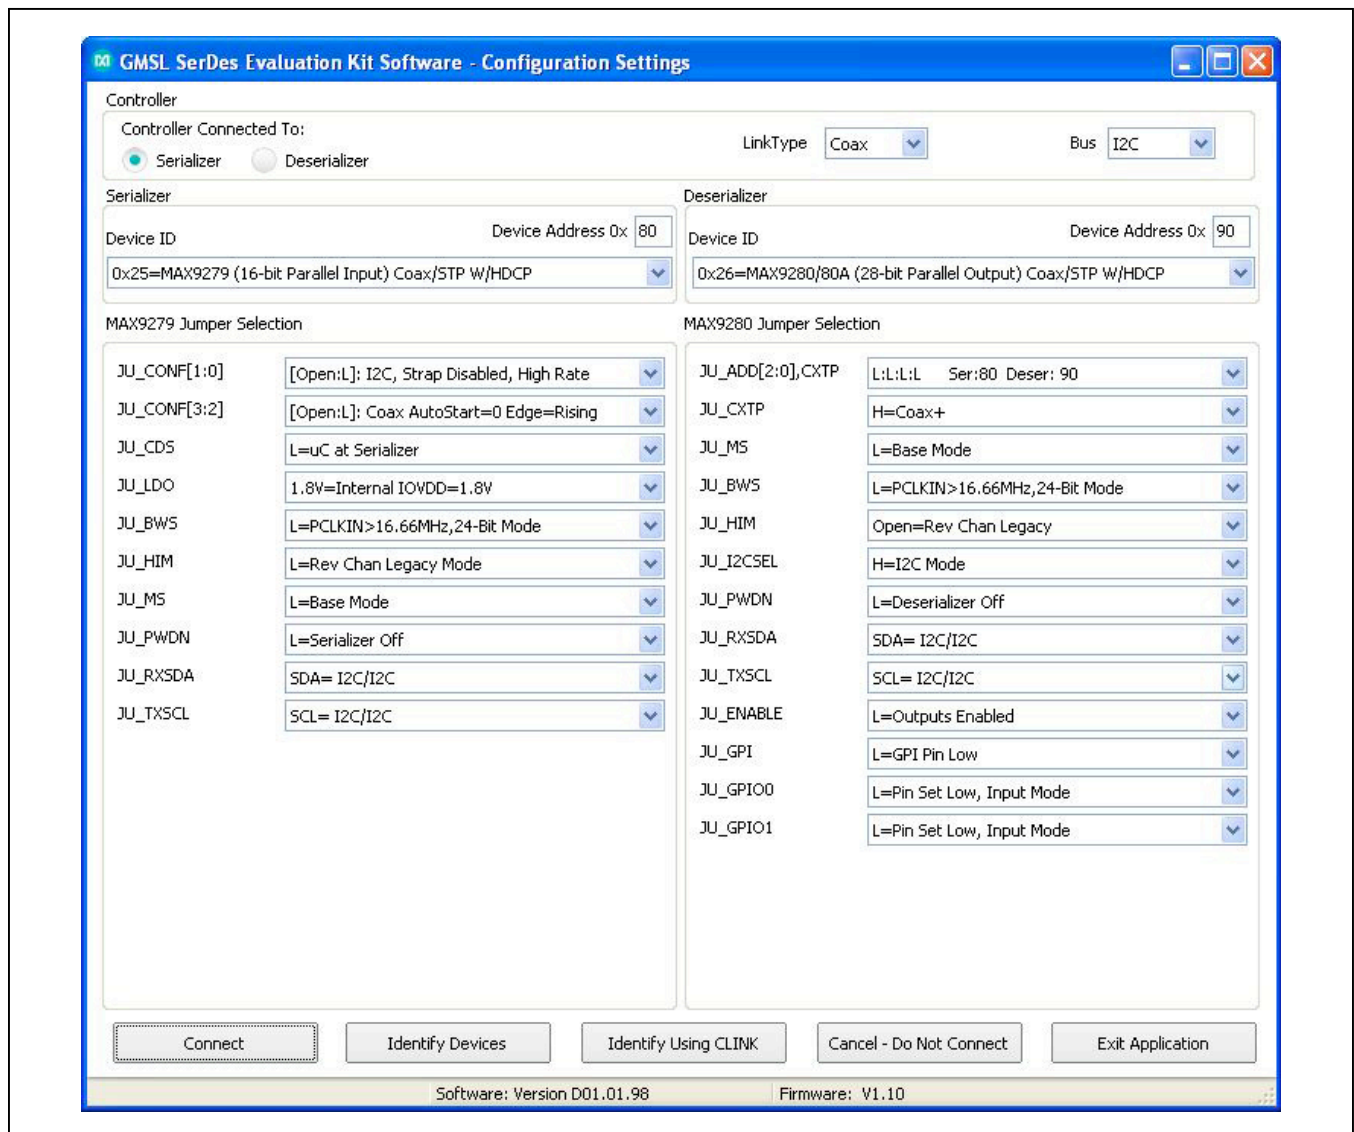

Figure 1. MAXSerDesEV-D Evaluation Kit Software (Configuration Settings Window)
- 13) Start the EV kit software by selecting **Start | Programs | Maxim Integrated | MAXSerDesEV-D | MAXSerDesEV-D**. The **Configuration Settings** window will appear (Figure 1). Jumper settings in this window are for user reference and guide to properly configure the evaluation board. Jumper settings do not force the serializer or deserializer into a particular mode of operation.